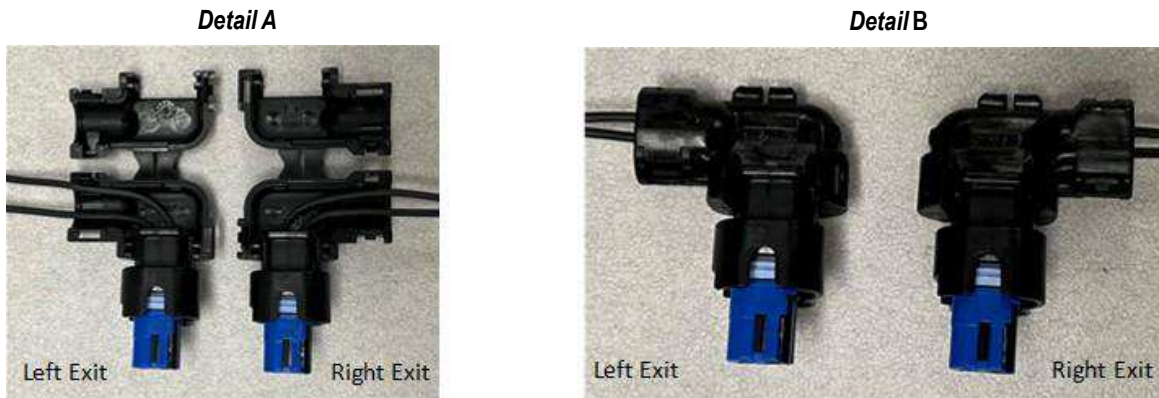

Figure 4: "Right-Angle Exit" Alternate Construction
**NOTE:** "Right-Angle Exit" Wire dress covers can be applied to form either a right or left wire dress exit. See Figure 4, Detail A (Alternate Construction).
**NOTE:** "Right-Angle Exit" Wire dress covers can be applied to form either a right or left wire dress exit. See Figure 4, Detail B (Alternate Construction).